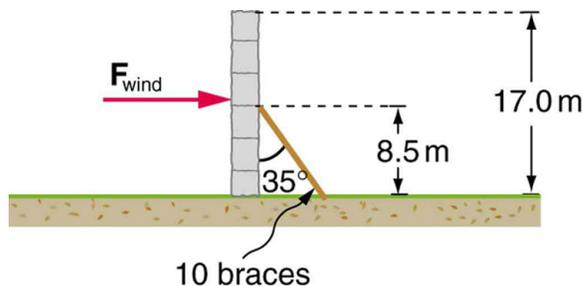

Figure 9.32
29. A 17.0-m-high and 11.0-m-long wall under construction and its bracing are shown in **Figure 9.32**. The wall is in stable equilibrium without the bracing but can pivot at its base. Calculate the force exerted by each of the 10 braces if a strong wind exerts a horizontal force of 650 N on each square meter of the wall. Assume that the net force from the wind acts at a height halfway up the wall and that all braces exert equal forces parallel to their lengths. Neglect the thickness of the wall.